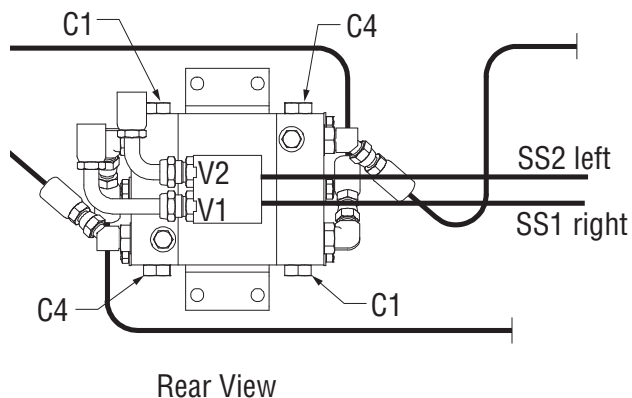

Figure 4-8, Rotation Cylinder Connections Detail
1. Install the lines from the truck's hydraulics to the attachment's hydraulics. (Figure 4-8) Refer to your parts manual for model-specific hydraulic schematics and hose routing.